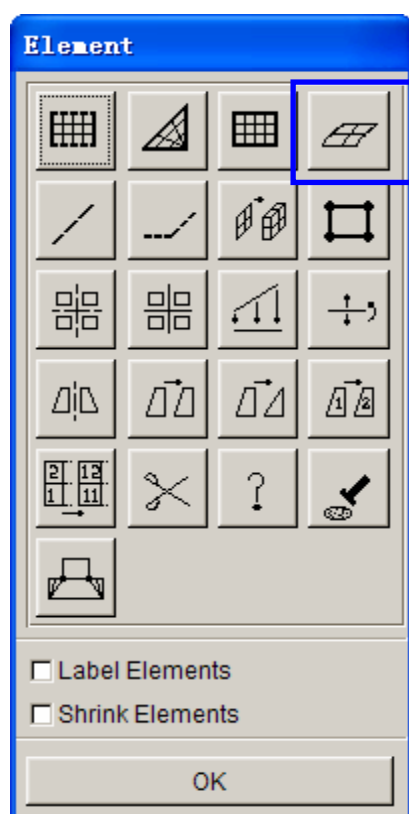

Figure 5.12 Element dialog box
3. Select **Surface Mesh** icon from ELEMENT dialog box shown in Figure 5.12.